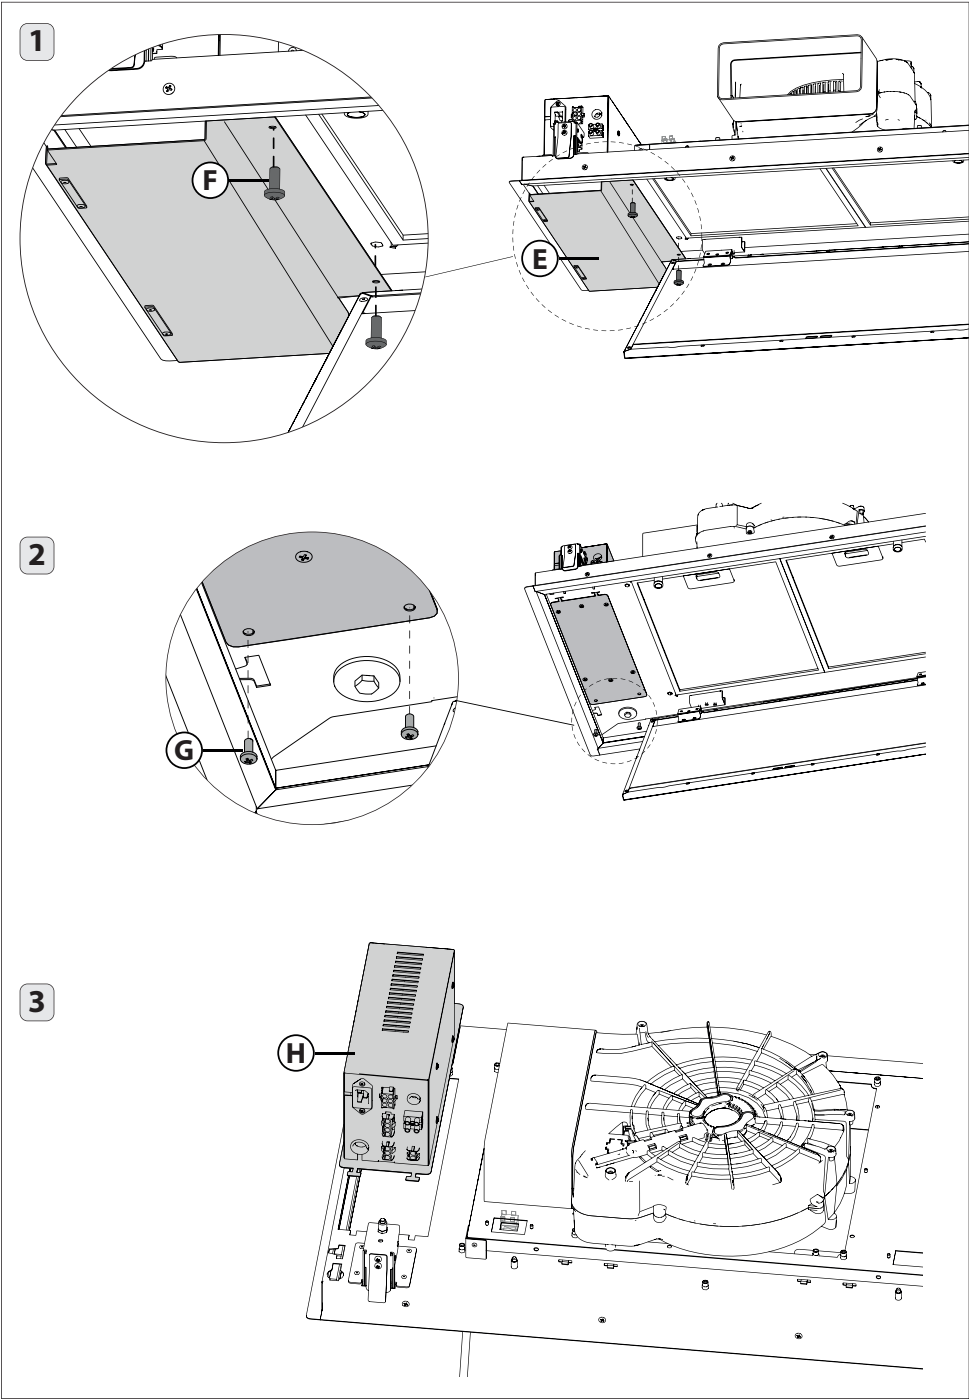
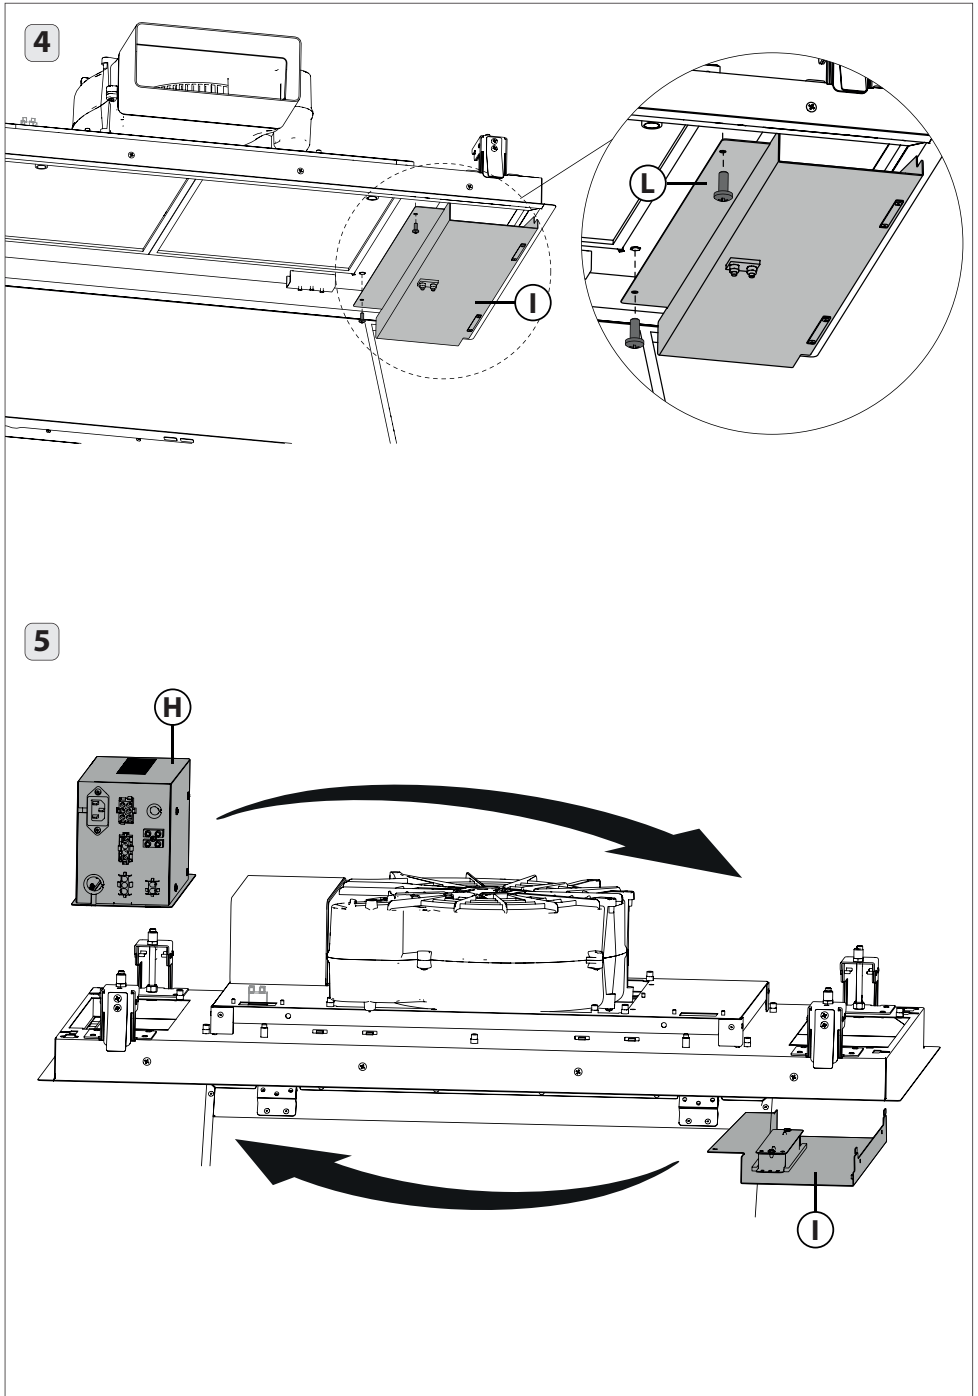

Fig.5
Fig.6
- Remove the screws F and the bracket E (Fig. 5 – step 1);
- Remove the screws G (Fig.5 – step 2), lift the entire electronic box H (Fig. 5 – step 3) and position the motor box on the opposite side (Fig.6 – step 5).
- Remove the screws L and the bracket I (fig.6 – step 4) and put them back where the electronic box H was inserted.